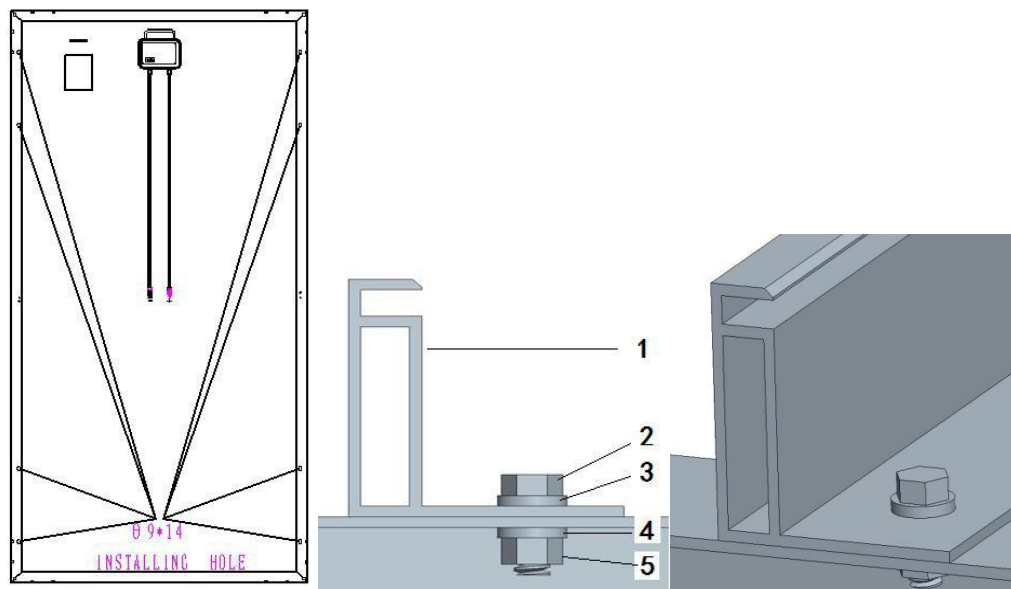

Figure1.Module installed with Bolt fitting method
- ☐ Secure the module in each fixing location with an M8mm bolt and a flat washer, spring washer and nut as shown in Figure 1 and tighten to a torque of 16 Nm.